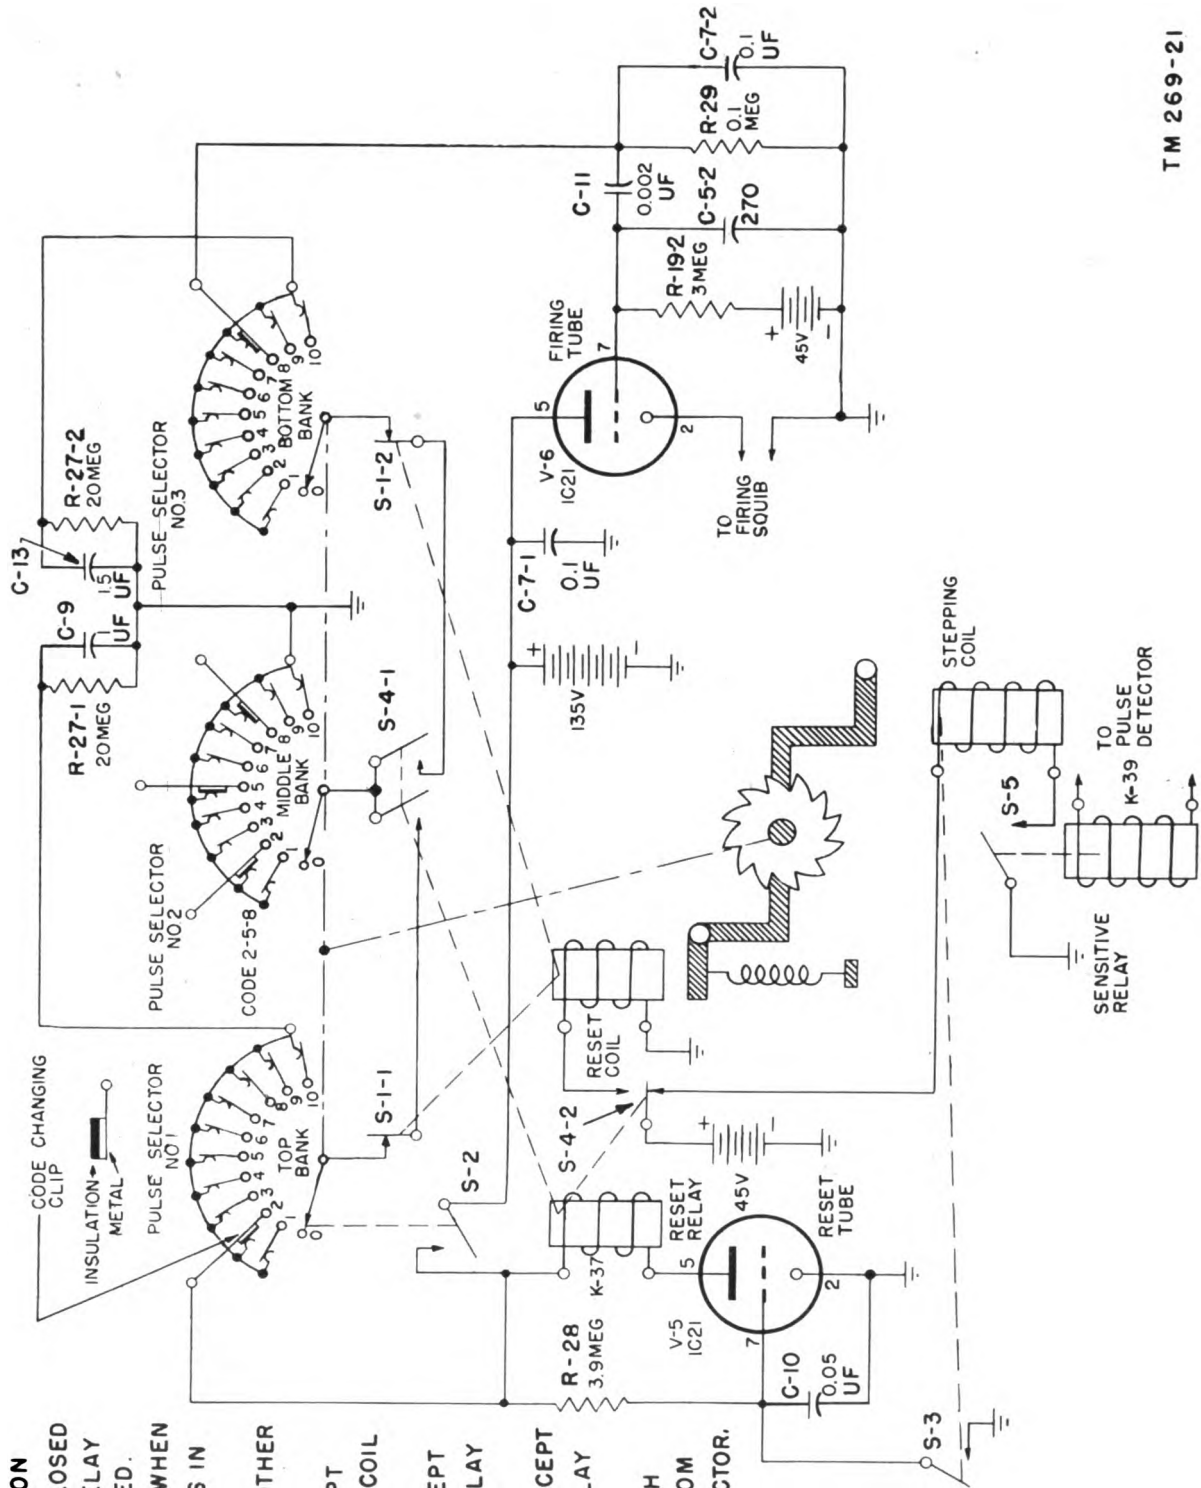

Figure 22. Receiver switching section, schematic diagram.
resistor R-24 form a differentiating circuit which converts the discriminator output voltage from a series of relatively broad pulses to a series of alternate positive and negative narrow, sharply peaked pulses. Since the grid of V-4 is biased so that plate current is very nearly cut off, only the positive pulses affect the pulse detector tube. With zero signal input, capacitor C-8 charges to a voltage equal to the supply voltage. When a narrow, sharply peaked positive pulse is applied to the grid of V-4 the tube conducts and C-8 discharges rapidly through the tube. Between these positive pulses C-8 is recharged by current through the relay winding. This charging current actuates relay K-39, which closes the circuit to the stepping coil of the stepping switch (fig. 22).
48. Electromechanical Switching Section (fig. 22)
Energizing relay K-39 closes S-5 and actuates the stepping coil. Thus the stepping switch contacts are moved up one step by each pulse produced in the transmitter. When no signals are received, the components of the switching section are in the positions shown in figure 22. When a signal of the correct radio and audio frequencies is received, relay K-39 closes with each audio pulse. If the three-digit code selected is 2-5-8, the switching section operates as follows: